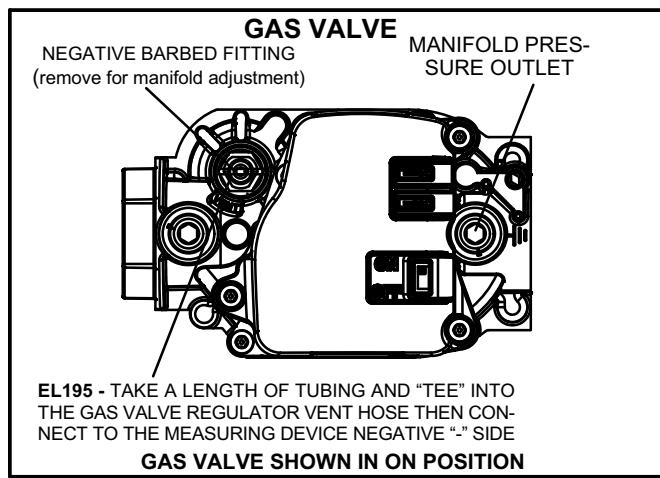

FIGURE 3
- 6 - Move gas valve switch to **OFF**. See figure 3.
- 7 - Wait five (5) minutes for any gas to clear out. If you then smell gas, **STOP!** Immediately call your gas supplier from a neighbor's phone. Follow the gas supplier's instructions. If you do not smell gas, go to the next step.
- 8 - Move gas valve switch to **ON**. See figure 3.
When testing manifold gas pressure, use the 1/8" N.P.T. plugged tap (manifold pressure outlet) located on the gas valve to facilitate test measuring device. See figure 3.
- Remove the negative barbed fitting as shown in figure 3 and using a screw driver make adjustment to increase or decrease manifold pressure.